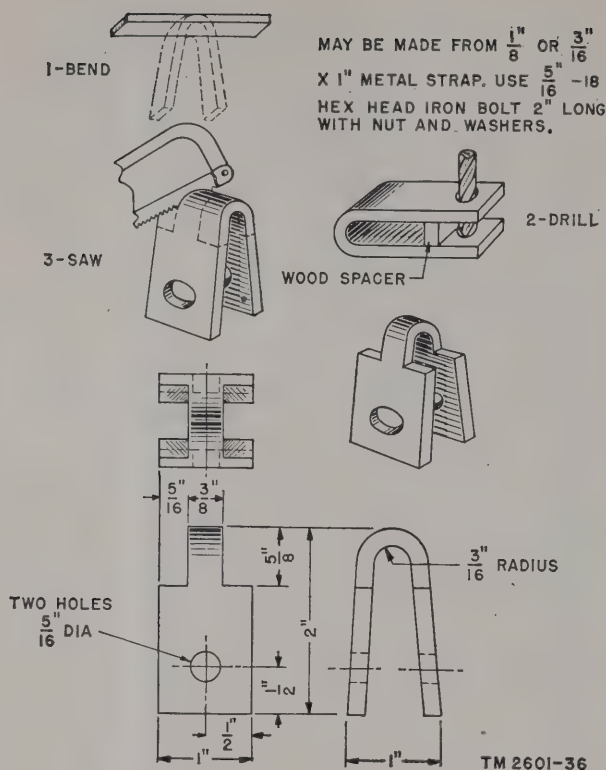

Figure 69. Suggestion for field-improvised clevis (alternate for item 28).
- (11) Assemble the transmission line with the empty rings of Insulators IN-86 using the bolt, nut, and washers as shown (junction items Nos. 3, 29, and 28, fig. 67). If the recommended shackle is not available, any substitute which will keep the transmission line cables from 1½ inches to 2 inches apart rigidly, may be used (fig. 69).